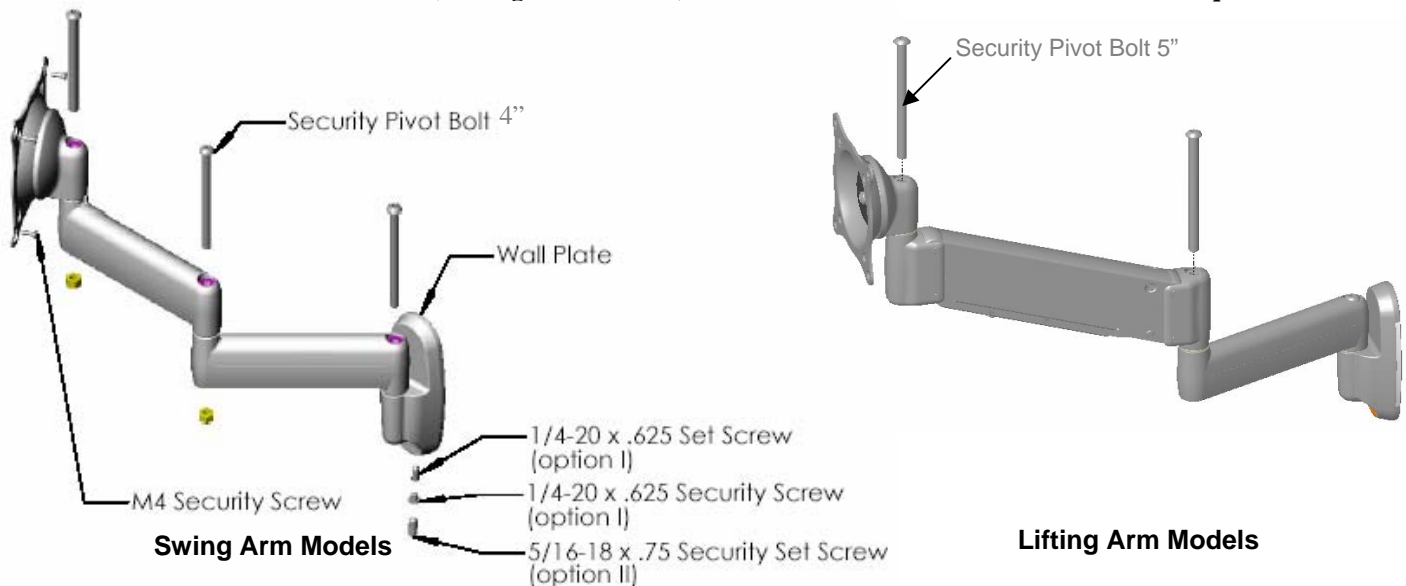

Figure 2
1. Remove and replace existing fasteners on small flat panel mount (dual arm assembly shown for reference) with tamper-resistant fasteners (see Figure 2).